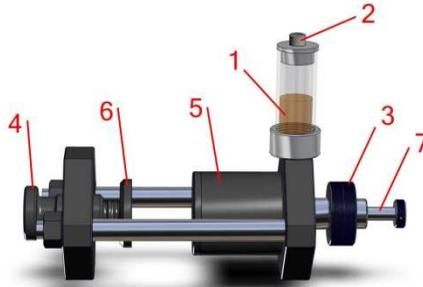

Figure 5.5.1
1. Remove the accessory mounting nut (Figure 5.5.1, Item 3) from the supporting frame of the High Compression Strength Accessory.
2. Gently slide the High Compression Strength Accessory onto the moveable clamp arm (Figure 7.3, Item 12) of the strength machine. Replace the mounting nut (Figure 5.5.1, Item 3) and hand tighten to secure the accessory onto the moveable clamp arm of the strength machine (see Figure 5.5.2).
The green compression clamp (Figure 5.1.1, Item 3) must be installed on the stationary clamp holder of the strength machine. The green compression clamp will provide a flat surface for the end of the slide rod (Figure 5.5.1, Item 7) to press against during a compression test.
3. Pull the slide rod (Figure 5.5.1, Item 7) towards the compression clamp located on the stationary clamp of the strength machine. Pull the slide rod to its fully extended position.
4. Gently hold in place a prepared 2" x 2" (50mm x 50mm) sand specimen between the moving head (Figure 5.5.1, Item 5) and the stationary clamp (Figure 5.5.1, Item 6) of the High Compression Strength Accessory. Using the sample clamp adjusting nut slowly tightens the sand specimen between the moving head and stationary clamp to secure the sand specimen between the two clamps. Tighten the sample clamp adjusting nut just enough to secure the sand specimen in place, do not overtighten the nut.
2. With the High Compression Strength Accessory mounted on the strength machine in an upright position remove the vent cap (Figure 5.5.1, Item 2).
3. By hand, quickly move the slide rod (Figure 5.5.1, item 7) in and out while observing any air bubbles that may escape through the oil reservoir (Figure 5.5.1, Item 1). Once all the air bubbles have traveled through the oil within the oil reservoir, repeat this process. Continue this process until no air bubbles are visible rising through the oil within the oil reservoir.
(See Figure 5.5.1 for Item Description)